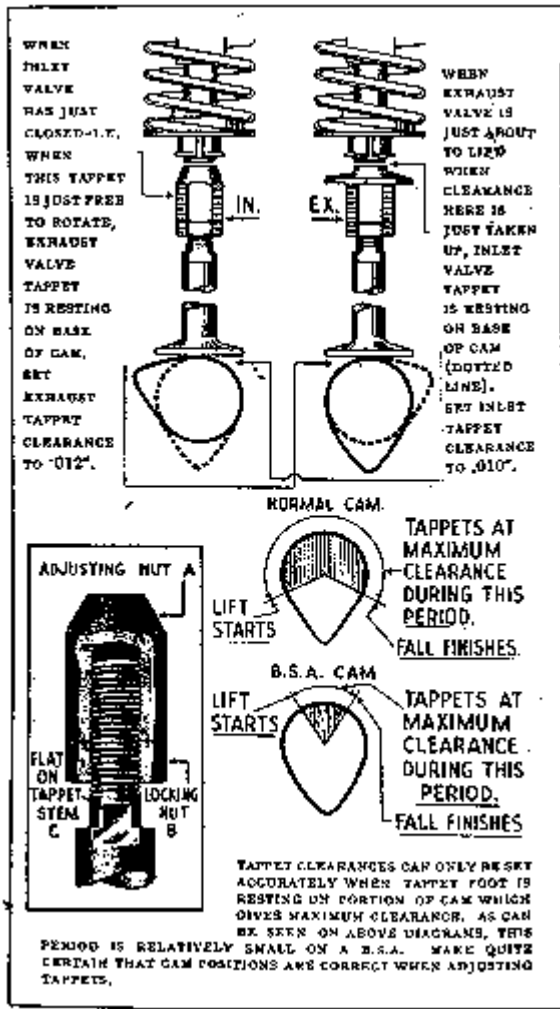

Fig. 8. Instructions for setting tappets
To check and adjust tappet clearances, it is most essential, owing to the special design of the cam form (see Fig. 8), that the following procedure be adhered to.
The actual adjustment is carried out by releasing the locknut (B) (Fig. 8), holding the tappet with a spanner on the flat (C), and screwing the tappet head (A) either up or down. When correct clearance is obtained, the locknut must be tightened against the tappet head. It is advisable, after locking up, to check clearance again, to make sure that the adjustment has not been affected.